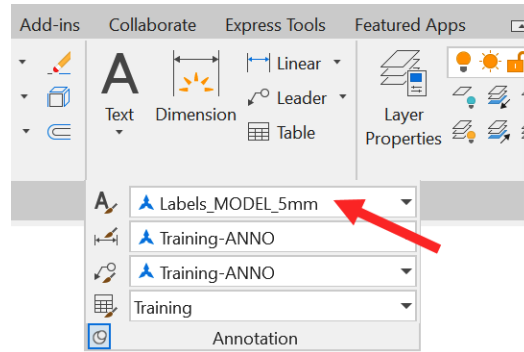

Figure 8.18: The Annotation panel pinned open with the text style arrowed
2. You need to use an appropriate text style to place some labels in the **Executive Office** area of the drawing. Using the **Annotation** panel on the **Home** tab of the ribbon, use the flyout menu on the panel title bar. You can then use the text style flyout menu to ensure you use the appropriate text style for annotation. You need to be using **Labels\_MODEL\_5mm**, as shown in *Figure 8.18*. If it helps, you can pin the **Annotation** panel flyout open to stop it from disappearing back into the ribbon. It is also shown pinned open in *Figure 8.18*: